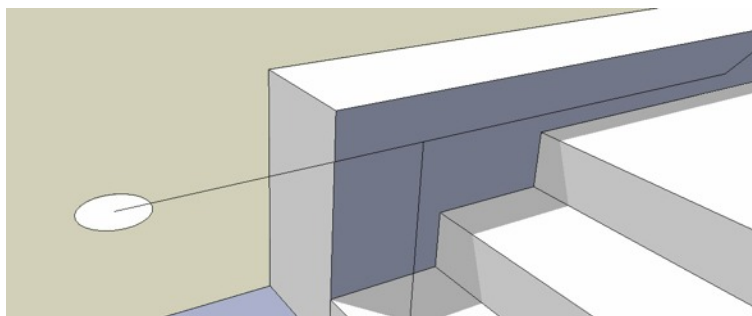

Figure 73. The 20mm radius circle at the end of the line
- At the end of the rail at the bottom of the steps, draw a circle with 20mm radius as shown in Figure 73.